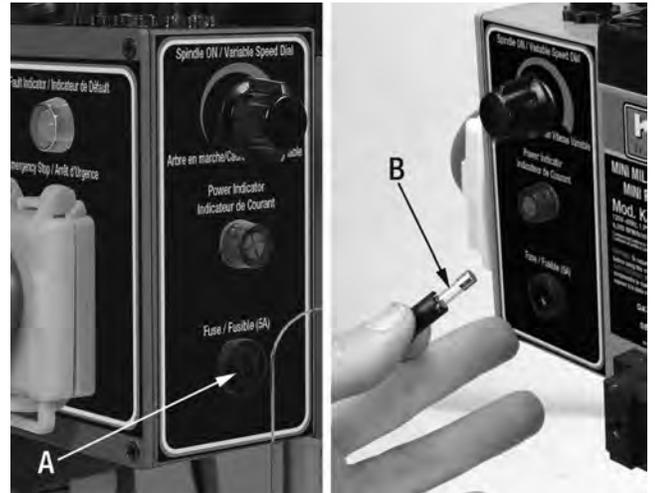

FIGURE 19
1. Unscrew fuse cover (A) Fig.19.
2. Remove fuse (B), replace with identical fuse and reinstall fuse cover.